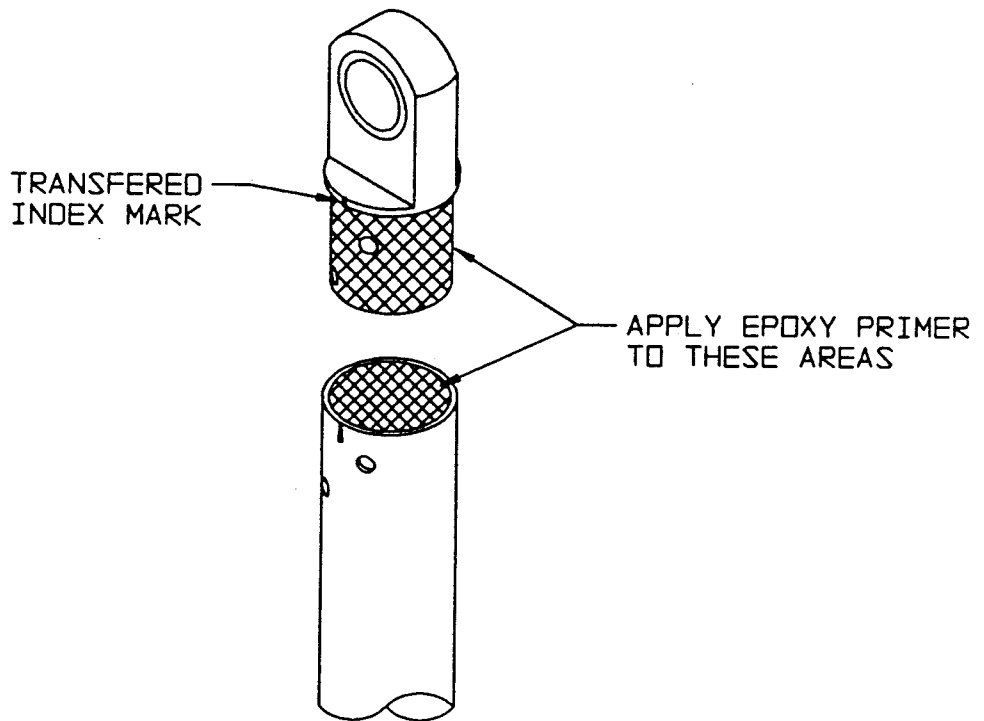

FIGURE 3
7. Transfer the index mark from the old end fitting to the new fitting and temporarily install the fitting in the control rod (See Figure 3).
10. Apply epoxy primer to the mating surfaces of the end fitting and the control rod and install the end fitting in the control rod while the epoxy primer is wet. Secure the end fitting using four (4) rivets, P/N CR3243-4-2 (See Figure 3).